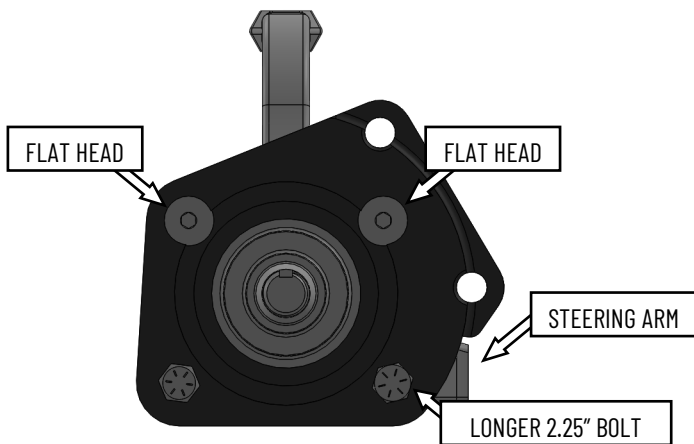

Figure 2. Base bracket installed (outboard view)
6. The caliper position will be behind the spindle pin centerline between the steering arm and upper ball joint upright. Install the base brackets to the spindle using the supplied 3/8-16 flat head cap screws, hex head bolts, and Nylock nuts. The longer (2.25") bolt will be inserted in the steering arm hole closest to the tie rod attaching point. Torque hardware to 40 ft-lbs. to secure the base bracket to the spindle. See Figures 2 and 3 below for reference. The base brackets provided with this system begin with either 661 for the left (driver) side or 662 for the right (passenger) side of the vehicle.